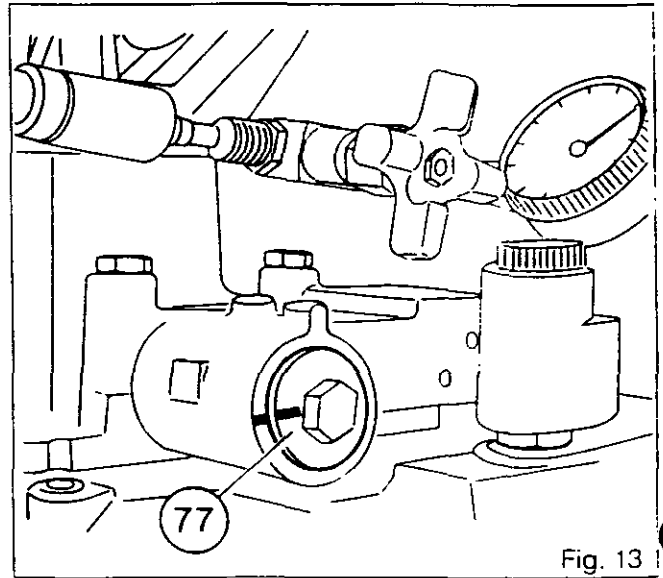
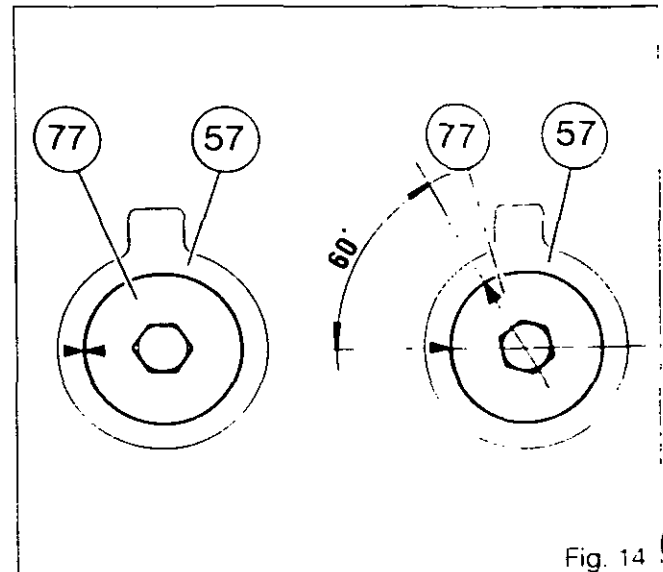
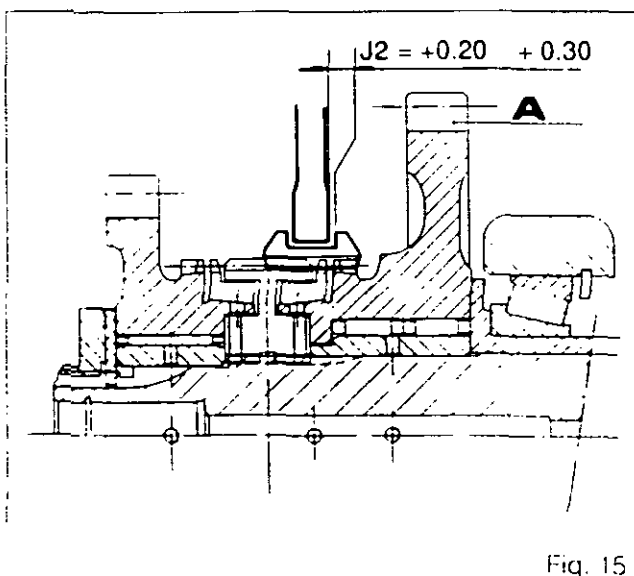

Fig. 13
Fig. 14
Fig. 15
22. Mark plug (77) and cover (57) with a straight line (Fig. 13).
24. Lubricate O-ring (76) and fit it.
27. When the mark on plug (77) is opposite the mark on cover (57), screw the plug in by 1/6 of a turn (60°) (Fig. 14) to give a clearance (Fig. 15):